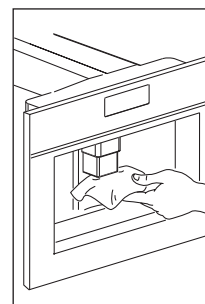

Fig. 36
- ▶ Clean the spouts periodically using a sponge (Fig. 36).